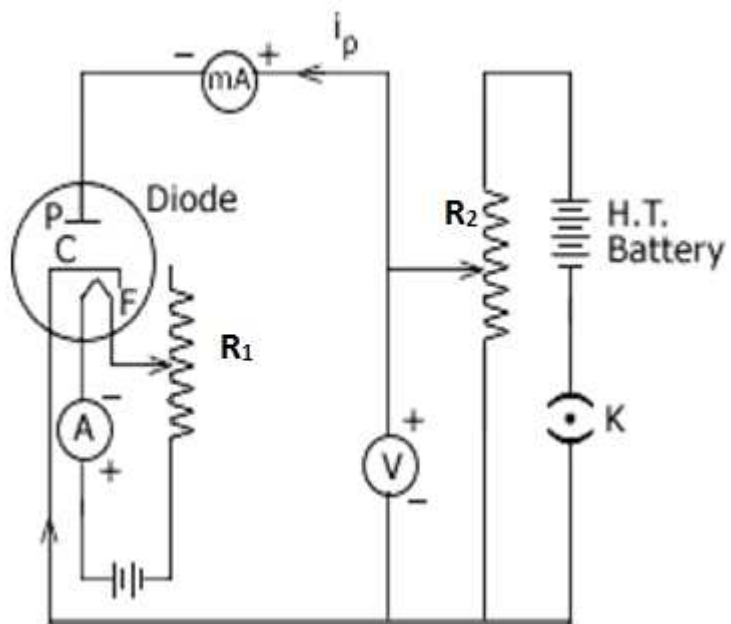

Figure 2
18. Make electrical connection as shown in figure 2.